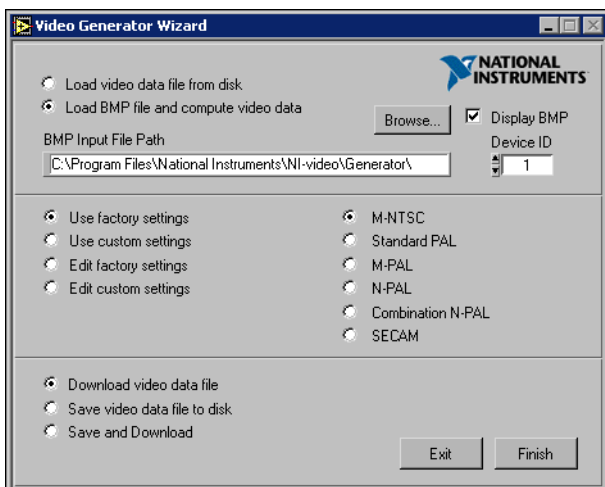

Figure 12. NI Video Generator Wizard Dialog Box
3. Launch the NI Video Generator Wizard, shown in Figure 12, by selecting **Start»Programs»National Instruments Composite Video Generator»Video Generator Wizard**.
4. Generate a video signal based on a bitmap image using the factory settings by completing the following steps while referring to Figure 12.